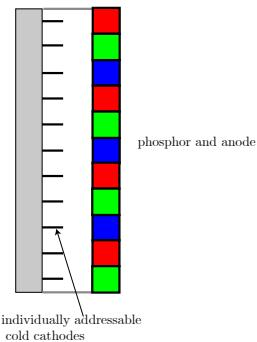

Figure 20: This is an SEDs
**Example 2.3.4.** Since there are issues with the previous two design, we will look at the best design 5 years ago. This design is called *Select electron diodes* or SEDs. They are individual addressable cathodes. This is illustrated schematically in figure 20. We can find that SEDs contains a lot of individually addressable cathodes, i.e. you can switch each cathode on and off, they are *carbon nanotubes*. They can be inserted by putting an array of carbon nanotube on the screen, and they can be forced to pointed upward by putting a tape on it, and pull it. The current is given by